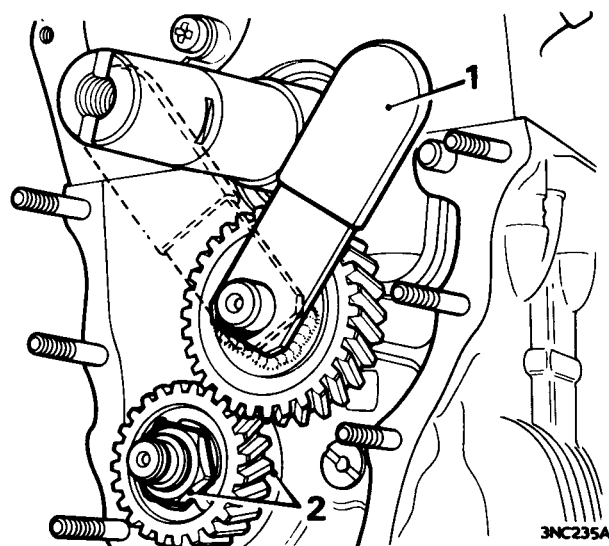

Fig. A.31
- Position the tool into the idler gear bearing with the handle against the crankshaft, Fig. A.31.
16. Position the gear train holding tool on the opposite side of the crankshaft, Fig. A.31.